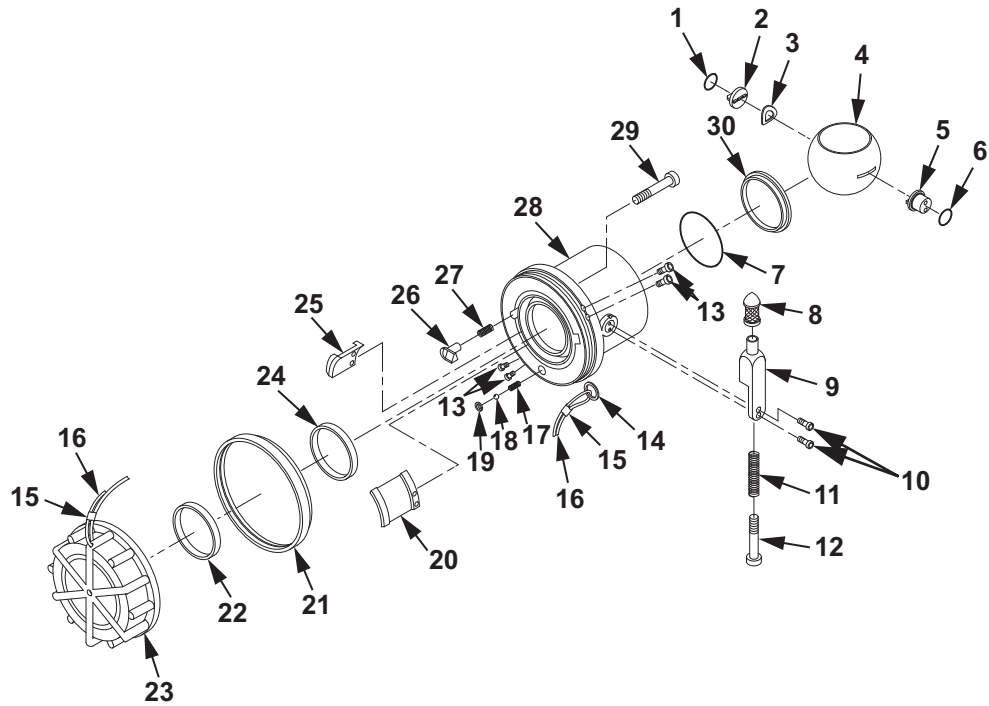

Figure 4. Valved Dry-Break Coupling Assembly.
21. Tighten screw (Figure 4, Item 12) hand tight.
22. Install control arm shaft (Figure 4, Item 5) inside coupling (Figure 4, Item 28).
23. Position control arm (Figure 4, Item 9) with holes on control arm shaft (Figure 4, Item 5).
24. Install two screws (Figure 4, Item 10) through control arm (Figure 4, Item 9) and into control arm shaft (Figure 4, Item 5).
25. Using torque wrench and screwdriver bit, torque screws (Figure 4, Item 10) to 8 in. lb (0.90 N•m).
26. Lightly lubricate new O-ring (Figure 4, Item 7) with petrolatum and install new O-ring (Figure 4, Item 7) in coupling (Figure 4, Item 28).
27. Install new seal (Figure 4, Item 30) into coupling (Figure 4, Item 28).
28. Lightly lubricate new O-ring (Figure 4, Item 1) with petrolatum and install new O-ring (Figure 4, Item 1) in groove of stop pin (Figure 4, Item 2).
29. Install spring washer (Figure 4, Item 3) in groove of stop pin (Figure 4, Item 2).
30. Install stop pin (Figure 4, Item 2) inside coupling (Figure 4, Item 28).
31. Align slots in ball valve (Figure 4, Item 4) with tangs on control arm shaft (Figure 4, Item 5) and stop pin (Figure 4, Item 2).
32. Install ball valve (Figure 4, Item 4) in coupling (Figure 4, Item 28).
33. Rotate control arm (Figure 4, Item 9) to the open position to retain ball valve (Figure 4, Item 4) in place.
34. Test function of lockout pin (Figure 4, Item 26), if not removed from coupling (Figure 4, Item 28).
- a. With ball valve (Figure 4, Item 4) in the open position, depress lockout pin (Figure 4, Item 26). If lockout pin (Figure 4, Item 26) cannot be depressed, then stop pin (Figure 4, Item 2) has been installed correctly.
- b. With ball valve (Figure 4, Item 4) in the open position, depress lockout pin (Figure 4, Item 26). If lockout pin (Figure 4, Item 26) can be depressed, then stop pin (Figure 4, Item 2) has been installed incorrectly.
- c. If stop pin (Figure 4, Item 2) was installed incorrectly, remove ball valve (Figure 4, Item 4) and reposition stop pin (Figure 4, Item 2).
35. Test function of lockout pin (Figure 4, Item 26) if removed from coupling (Figure 4, Item 28).
- a. With ball valve (Figure 4, Item 4) in the open position, from the interface end, look through hole in lockout pin (Figure 4, Item 26) and observe stop pin (Figure 4, Item 2). If stop pin (Figure 4, Item 2) half shaft can be seen, then stop pin (Figure 4, Item 2) has been installed correctly.
- b. With ball valve (Figure 4, Item 4) in the open position, from the interface end, look through hole in lockout pin (Figure 4, Item 26) and observe stop pin (Figure 4, Item 2). If stop pin (Figure 4, Item 2) half shaft cannot be seen, then stop pin (Figure 4, Item 2) has been installed incorrectly.
During adjustment of lockout pin (Figure 4, Item 26), ensure that ball valve (Figure 4, Item 4) is securely seated at all times.
36. Adjust lockout pin (Figure 4, Item 26).
- a. Pull knob (Figure 4, Item 8) on control arm (Figure 4, Item 9) back and slowly rotate towards the closed position. If control arm (Figure 4, Item 9) cannot be rotated or is too tight, then lockout pin (Figure 4, Item 26) requires adjustment.
- b. Adjust lockout pin (Figure 4, Item 26) by loosening screw (Figure 4, Item 29) 1/4 turn at a time until control arm (Figure 4, Item 9) can be rotated freely.